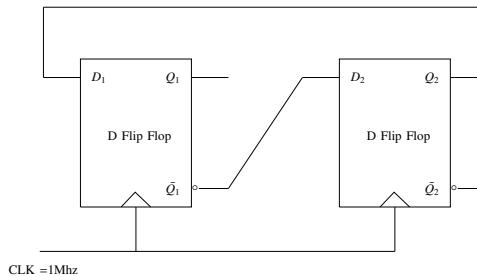

Fig. 5.7
7. In a given sequential circuit in Fig. 5.7, initial states are $Q_1 = 1$ and $Q_2 = 0$. For a clock frequency of $1MHz$, find the frequency of signal Q_2 in kHz (rounded off to the nearest integer).